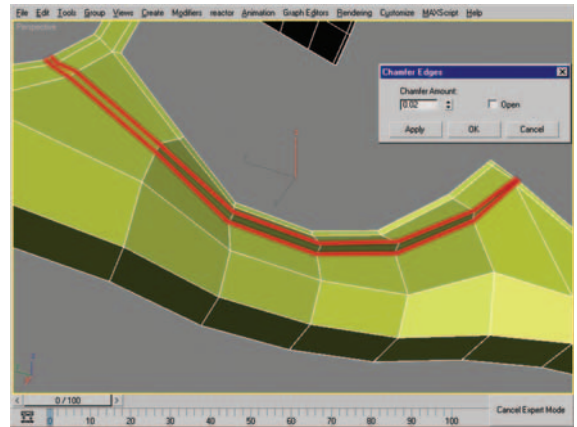

Figure 8.77 Edge selection. Use the Chamfer settings to create two additional rows of edges.
77. Select the two rows of edges seen in Figure 8.77 and use the Chamfer settings dialog box with a Chamfer Amount of 0.02 to create two more rows of edges that are in close proximity to the original edge selection.